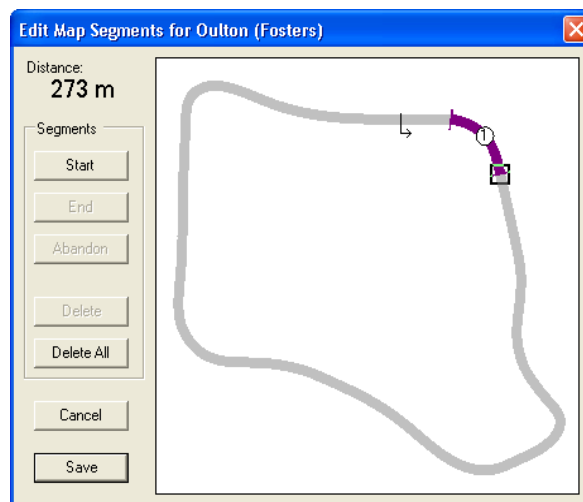

Figure 22 - Edit Map Segments Dialog (Segment Defined)
5. Mark the end point of the segment by clicking on the map and then clicking **End**. The portion of the map between the start and end points changes colour with small bars marking the extents of the segment (see Figure 22). Clicking **Abandon** before marking the end point of a segment allows the definition of the current segment to be cancelled.